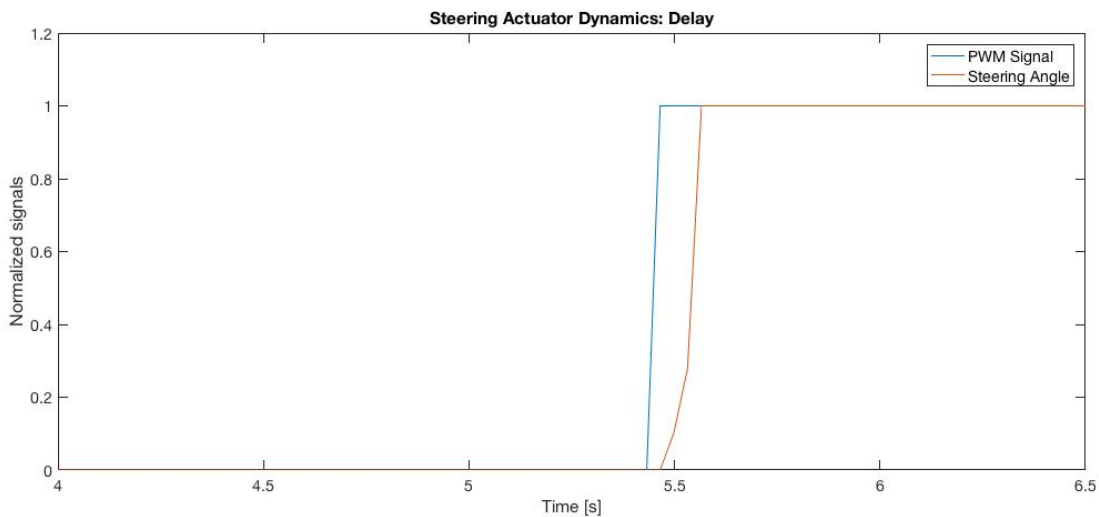

Figure 2
9. Fig. 2 plots the normalized servo PWM signal against the resultant steering angle. For simplicity, we will model the dynamic steering response as a pure time delay: $G_{pwm \rightarrow \delta}(s) = e^{-0.1s}$, where $\tau = 0.1[s]$ is the time-domain delay between the actuation command change and steering response.